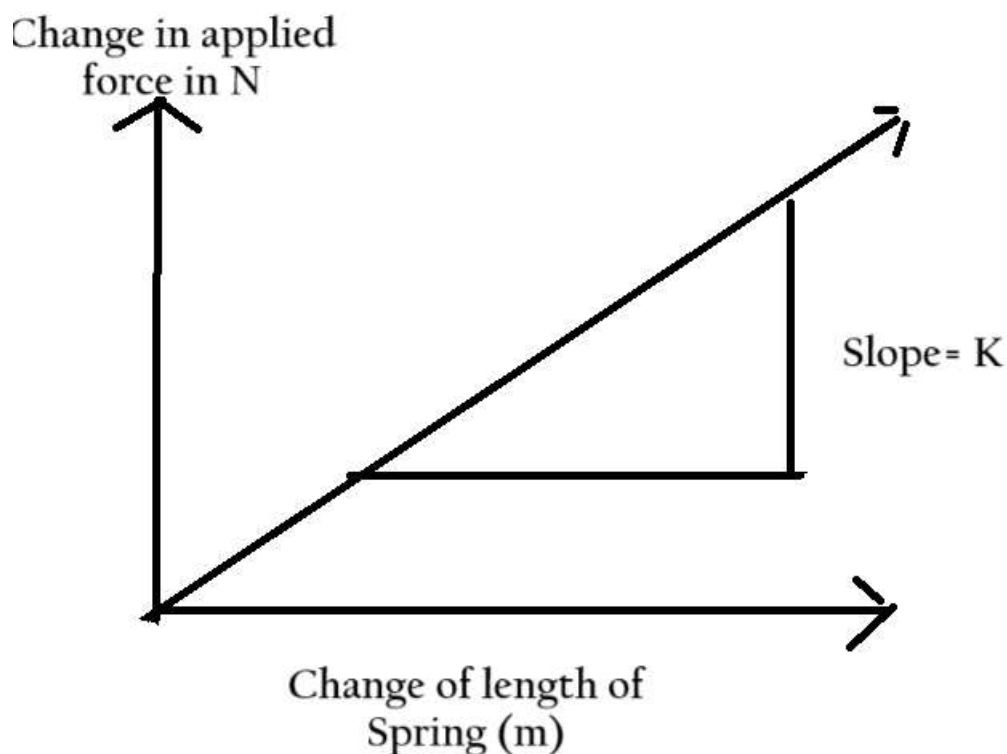

Figure 2. Relation between spring load and change of length.
6. Plot the graph of extension (Δx) in centimeters on the X-axis against the Force in Newton on the y-axis (see figure 2). A straight-line graph from origin shows a linear relationship between the load making force and the extension. Calculate the slope of straight line (*slope 1*).
7. Calculate the **spring constant** from the relation (from graphic method) as shown in figure 2.
8. Compare **K average** found from **table 1** and from the **figure 2, they must be almost similar.**